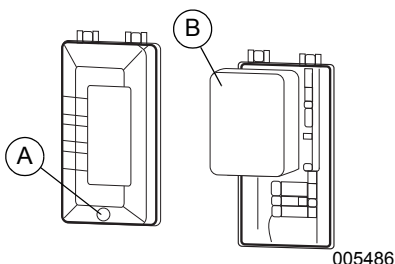

Figure 4-4. Air Filter Assembly
1. Unscrew bolt (A) and remove air filter cover. See Figure 4-4.
2. Wash filter (B) in soapy water. Squeeze dry in clean cloth (DO NOT TWIST).